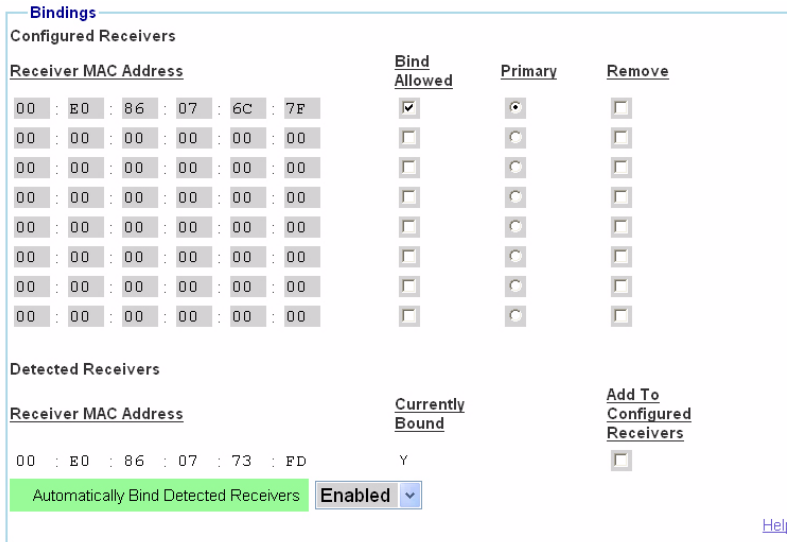

Figure 3.3: Bindings Page
4. Scroll to the bottom of the Bindings page and verify that all active receivers are listed (by MAC address) within the Detected Receivers table. Figure 3.3 on page 24 illustrates the Detected Receivers table. If a receiver is not listed, verify proper LAN connectivity or power state of the receiver. If the receiver is not detected and your transmitter is configured for wireless operation, you may need to adjust the transmitter power setting, refer to *wireless transmission power settings* on page 34.
1. Within the Detected Receivers table, select the *Add to Configured Receivers* checkbox next to each detected receiver. Figure 3.3 on page 24 illustrates the Detected Receivers table.
5. In the Configured Receivers table, set the *Bind Allowed* checkbox to configure each receiver as explicitly bound (able to receive media data), or not bound (able to bind with a different transmitter). Figure 3.3 on page 24 illustrates the Configured Receivers table.